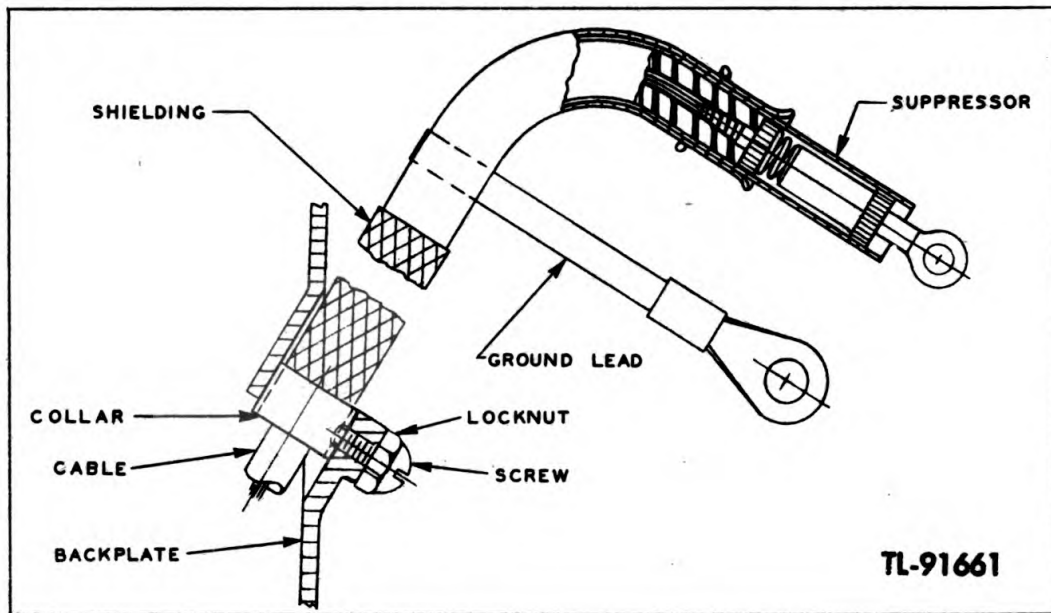

Figure 13. Magneto cable positioned in backplate
(1) Remove the ground lead screw from the spark plug shield cap.
(2) Press down the spring retainer and take off the cap.
(3) Remove the ground lead from the magneto cable shielding to the spark plug shield body.
(4) Remove cable lead from spark plug.
(5) Remove the magneto flywheel housing, then the starter pulley.
(6) Screw the flywheel removal tool onto the crankshaft. Tap the removal tool on the end until the magneto flywheel loosens up. At the same time, pull on the flywheel in the direction of removal to take advantage of any crankshaft end play. Remove the flywheel.
(7) Unfasten the wire end of the magneto cable from around the bracket in the coil. Loosen the screw and locknut at the back side of the magneto backplate (fig. 13) and withdraw the cable assembly.
(8) Unscrew the suppressor from the cable and withdraw the cable from the shielding assembly.
(9) Install a new cable in the shielding, first being sure the cable insulation is stripped back  $\frac{1}{2}$  inch at one end. Twist the wire strands together.
(10) Insert the shielding through the opening in the magneto backplate so the collar is about flush with the boss (fig. 13).
(11) Tighten the small screw and locknut.
(12) Insert the wire end of the cable through the bracket on the coil. Bend the strands around so the cable cannot work out.
(13) Bring the cable and shield assembly forward between the cylinder and magneto backplate. Screw on the suppressor.
(14) Install the assembly on the spark plug and replace the cap and ground leads.
(15) Reassemble the flywheel, starter pulley, and flywheel housing.